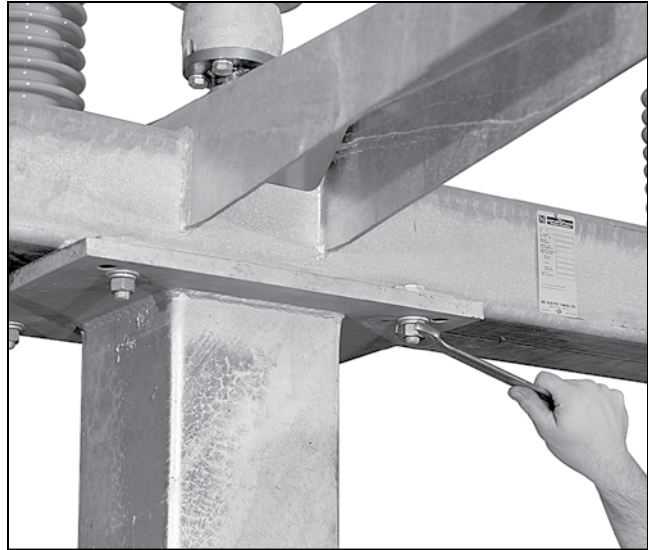

Figure 24. Bolt the switch to the mounting pedestal.
STEP 21. Bolt the switch to the mounting pedestal using four $\frac{5}{8}$ -11 \times 2 $\frac{1}{2}$ -inch galvanized steel cap screws, flat washers, lockwashers, and nuts furnished. See Figure 24.